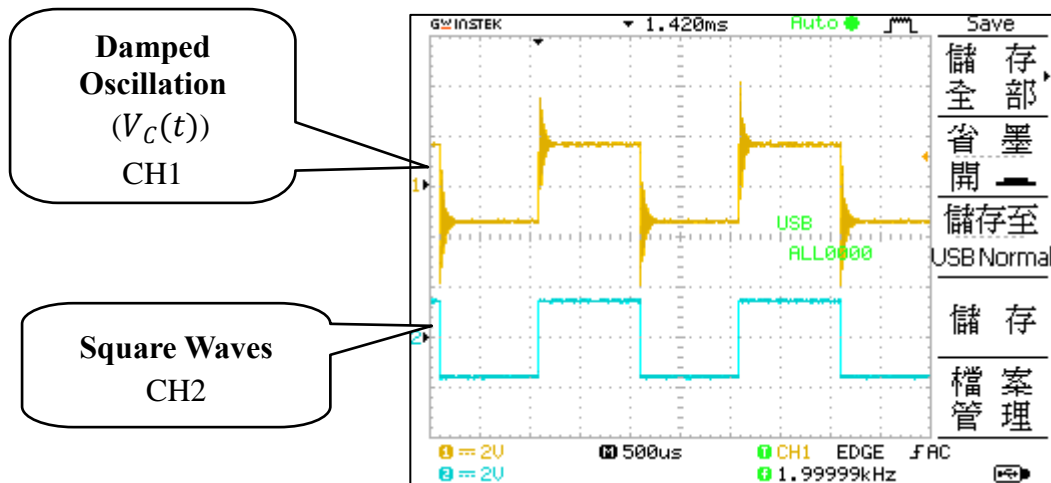

Figure 3. Damped oscillations (upper) and square waves (lower) in oscilloscope
By equations (4) and (6), $V_C(t)$ demonstrates the under damped oscillations in RLC series circuit. Figure 3 displays $\varepsilon(t)$ and $V_C(t)$ simultaneously depicted from the oscilloscope. In equations (4) and (6), amplitude of $V_C(t)$ decays exponentially with a decay factor $e^{-\beta t}$ and oscillates sinusoidally with an oscillation factor $\cos(\omega t)$. That is, the voltage across the capacitor undergoes a damped harmonic oscillation in analogy with a mass–spring system moving in a viscous medium.